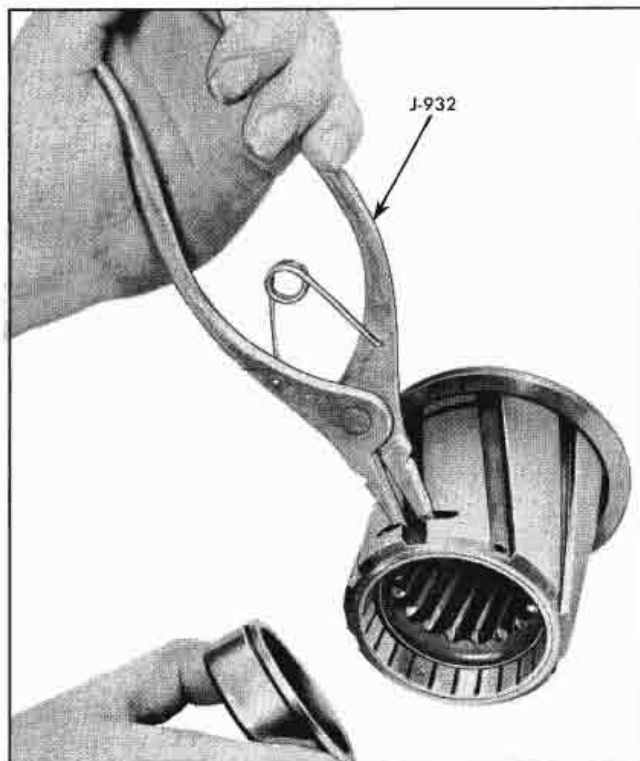

Fig. 7-42 Removing or Installing Synchronizer Ring
2. Using tool J-932, expand ring retainer in the counterbore in clutch sleeve (Fig. 7-42), and withdraw synchronizer ring.
3. Insert tool J-932 through slot in clutch sleeve (Fig. 7-42), and expand retainer in counterbore. Install ring in clutch sleeve.